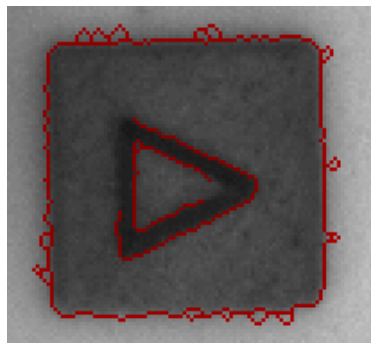

Figure 42. Found edges on the image.
4. Go to Define Golden Template Mask tab to configure the template parameters (Ignore Edge Region Edge Threshold, Additional Regions to Ignore, etc.) [Figure 42].